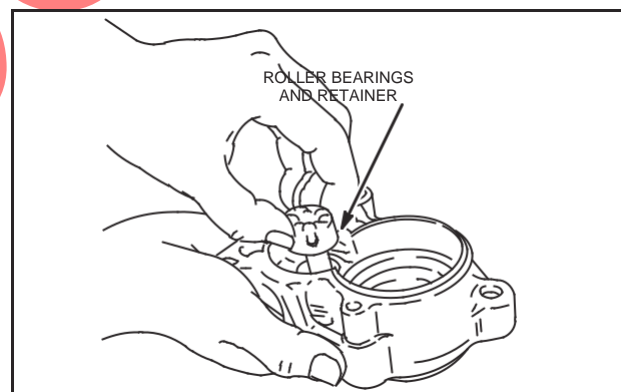

Fig. 58 – Assembling Roller Bearings
2. Assemble roller bearings and retainer to drive gear shaft, Fig. 58.